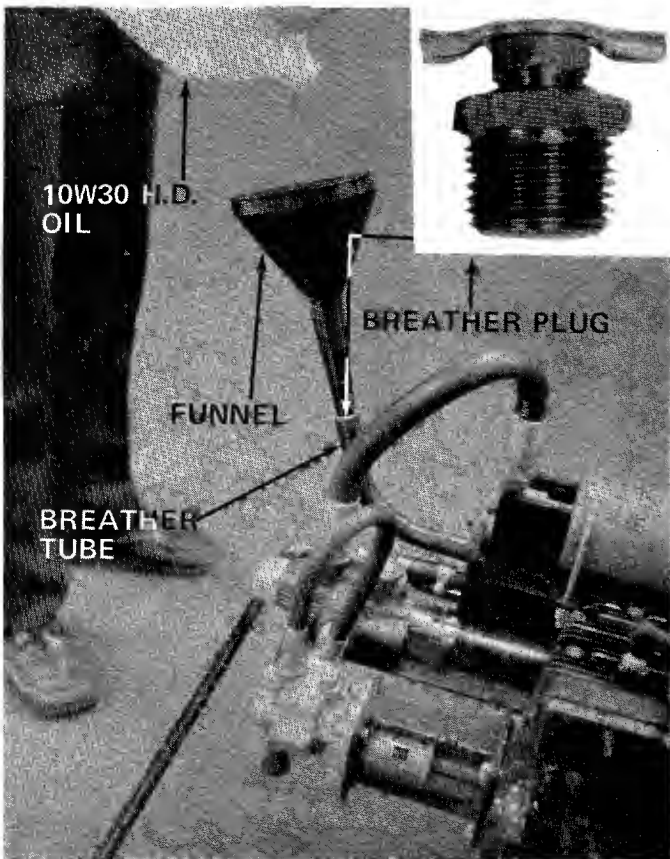
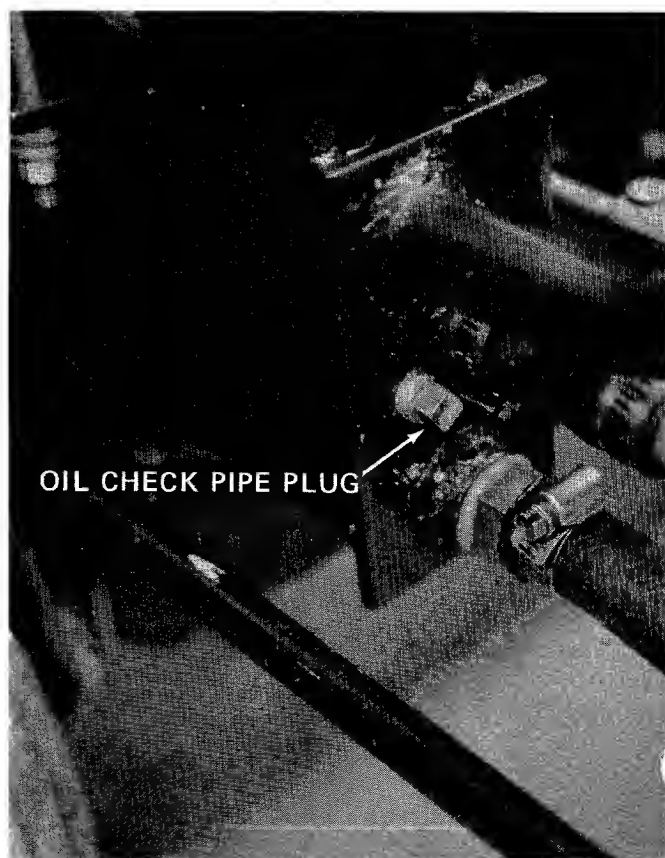

FIGURE 14
FIGURE 16
- 7 Remove the breather plug from breather tube. See figure 14. Pour 2-1/2 gallons of 10W30 H.D. oil ONLY into breather tube.
Check oil in log splitter reservoir before every use. See figure 16.
2. Remove check pipe plug in rear of beam. See figure 16. If oil starts to come out of check pipe plug hole, oil level is correct. IF NOT add oil to breather tube (figure 14) until oil starts out.